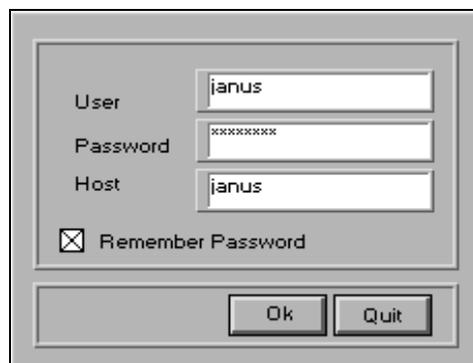

Figure 10. Login for central database.
| Figure 10. Login for central database. | 6 |
2. Click on the **Import** button. This opens a login box, which provides access to the ODP central database (see Figure 10). Enter your username, password, and host. Click the “Remember Password” box if you want the program to retain the password during subsequent logins.